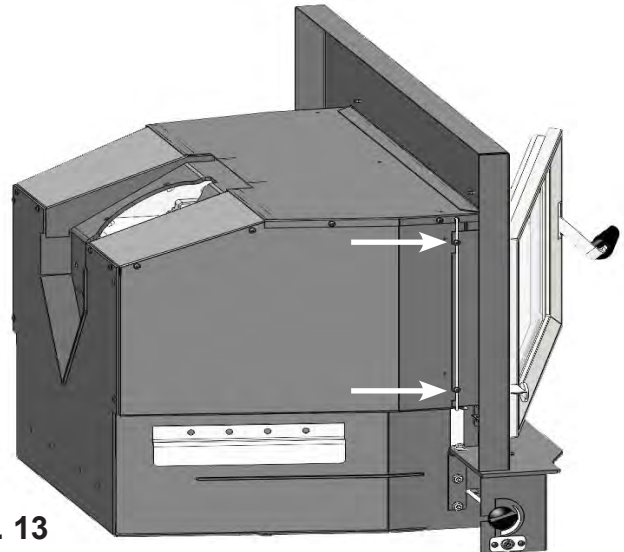

Fig. 13
2. **WITH THE LOADING DOOR OPEN**, align notches on the left side of the rear shroud with the screws protruding out of the firebox can. Once in position, do the same with the right side of the rear shroud. Push back and downwards on shroud to ensure it is locked in place then tighten all four screws using a #2 Robertson screwdriver. (Fig. 13)